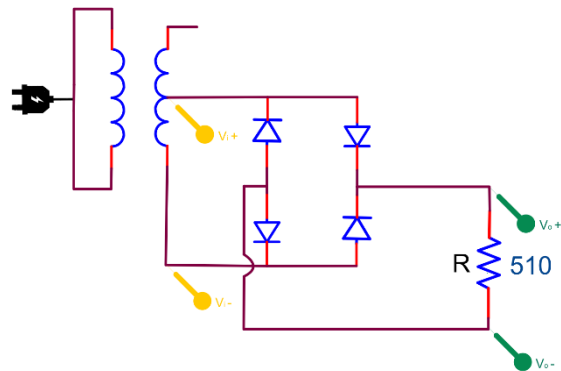

Figure 4.9
5. Construct the circuit shown in Figure 4.9. Use the oscilloscope to observe the voltage across one half of the transformer secondary and across the 510Ω load resistor.
- b. Figure 4.9